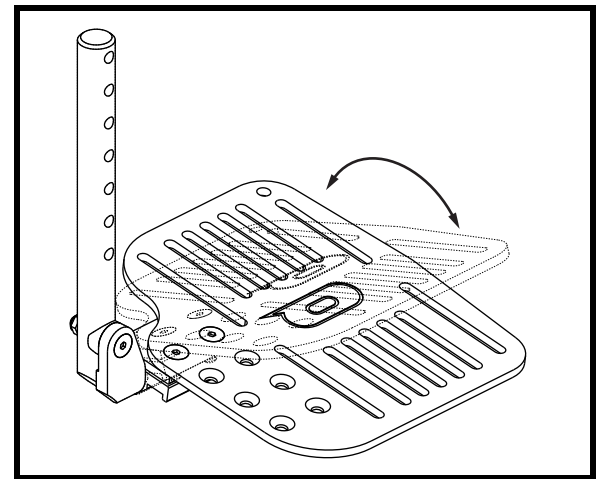

Figure 30. Foot Plate Angle Adjustment
2. Tilt the foot plate forward or back to the desired angle. See **figure 30**.